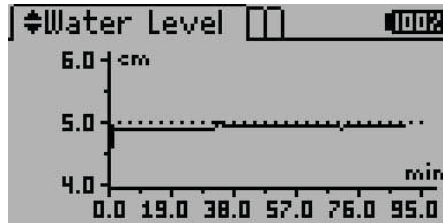

Figure 17 Water Level screen
- **Water Level Screen.** After a test is started, the water level above the soil ramps up to 5 cm. The Water Level screen displays the current water level on a graph that is updated every minute (Figure 17). The current point is indicated by a flashing dot.